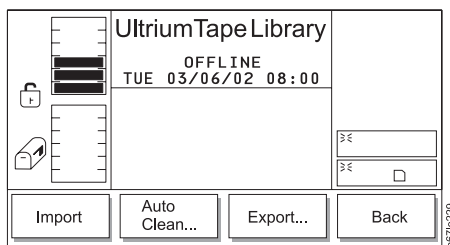

Figure 14-58. I/O Station Submenu
2. Press the button below the **I/O Station** softkey. The I/O Station Submenu displays (see Figure 14-58).